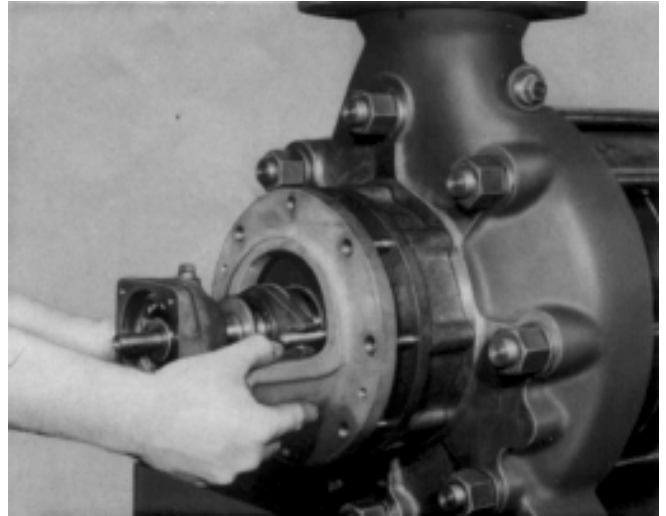

Fig. 57 Mounting the bearing housing.
- Mount bearing housing (drive end) (350) together with outer race of cylindrical roller bearing (322) and tighten hex. nuts (920.2) uniformly. (see Fig. 57)